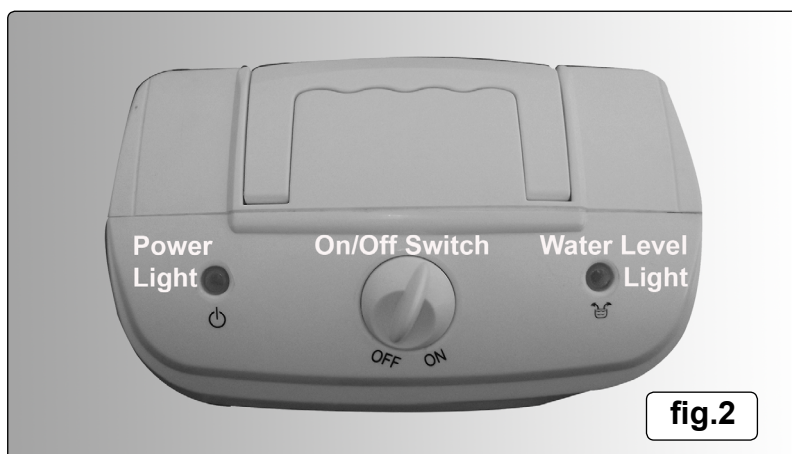

fig.2
- 4.1.2. Once plugged in to the mains supply, switch the machine on (fig.2). The power light (fig.2) will illuminate if all is in order.
- 4.3.2. When the drain tank is full, the float switch will stop the motor and the water level light (fig.2) will illuminate.